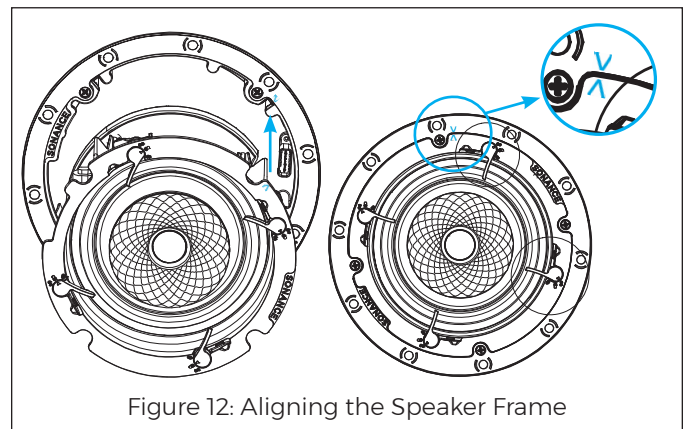

Figure 12: Aligning the Speaker Frame
- Firmly and fluidly snap the VX speaker module into the installed VX speaker frame. Line up the bright blue alignment fin of the speaker module with the matching blue alignment notch on the speaker frame (see Figure 12).